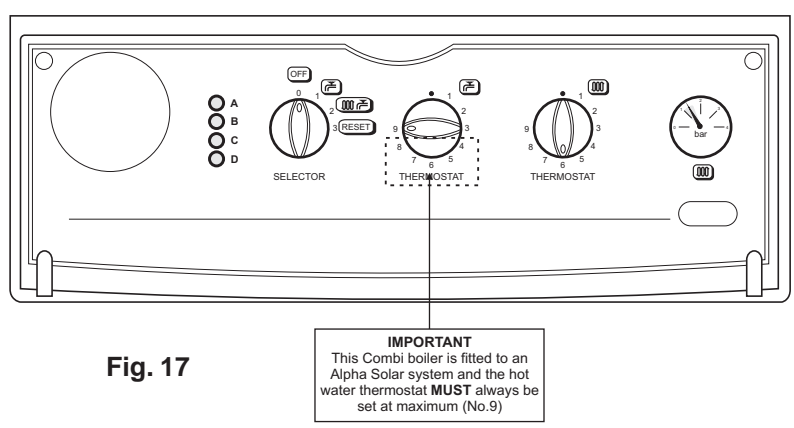

Fig. 17
3. A self adhesive label is supplied in the Solar Valve Kit. This label **must** be located as shown in Fig. 17, over the boiler hot water thermostat knob after it has been set to its maximum position, i.e. fully clockwise to position No. 9. This will ensure that the hot water temperature from the boiler will be approximately 60°C and will prevent the knob from being adjusted to a lower temperature.
3. How important it is for the combination boiler hot water thermostat to be left at the maximum position (No. 9) and that it is the purpose of the label (Fig. 17) to maintain this and that the label must not be removed.